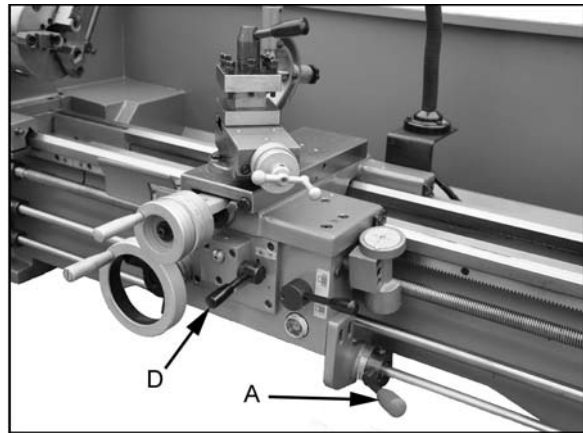

Figure 25
1. Move forward/reverse selector (A, Fig. 25) up or down depending on desired direction.
Push lever (D, Fig. 25) to the left and down to engage crossfeed. Pull lever to the right and up to engage longitudinal feed.